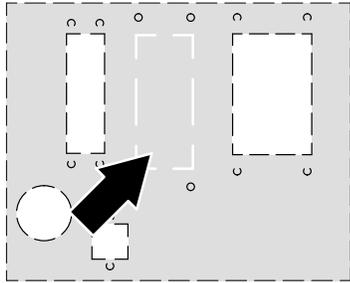

Fig. 4-98
1. Fig. 4-98 shows the area on the back of the melter intended to accommodate the cable.